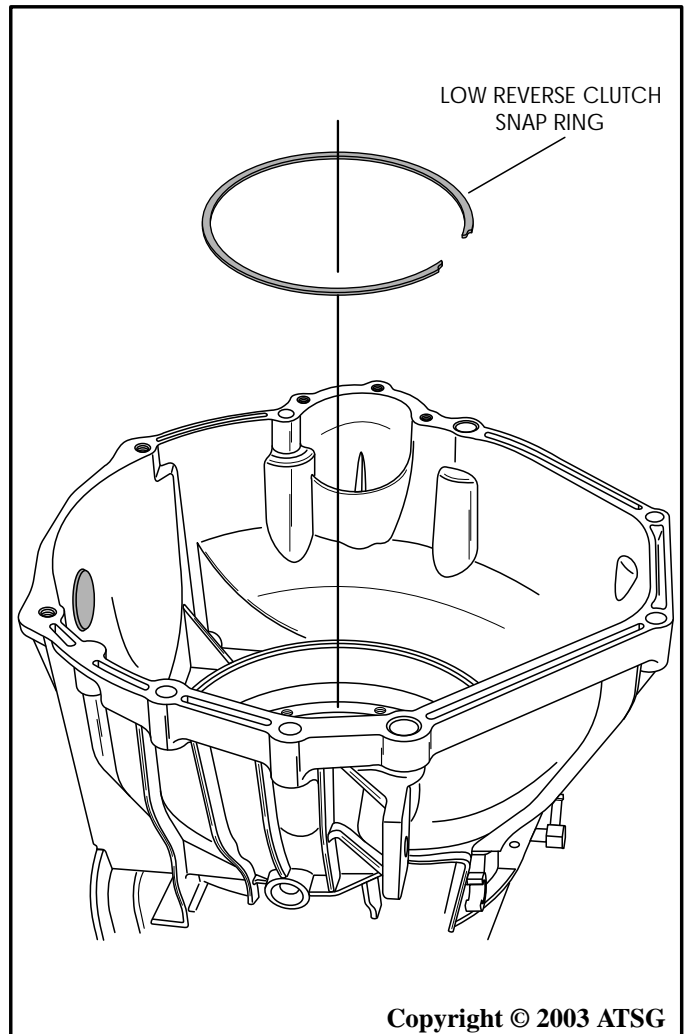

Figure 72
28. Remove the snap ring from case, as shown in Figure 72.